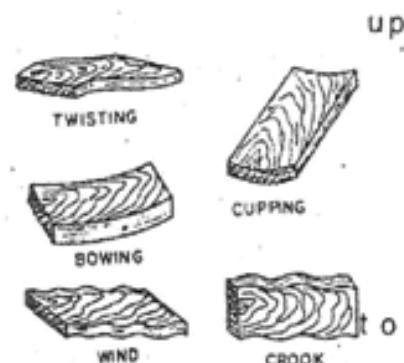

Fig 9 Defects in timber
**2. Distortion.** It is reckoned that shrinkage starts in most of the woods when their moisture content falls below 25 percent. As such, if seasoning is not uniform and if such wood is swan into thinner sections, distortion takes places in the sawn sections due to shrinkage. As result of this distortion, some common defects like twisting, bowing cupping, end splitting, wind, crook, warping, etc., appear in the wood. These defects are shown in fig. 9